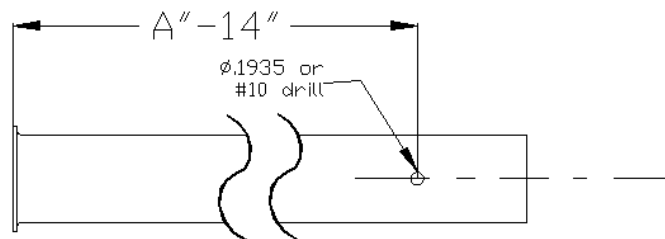

Figure 2
3. On the Drop Tube, drill two holes that are 180° apart using a #10 drill at the (A-14") location at the bottom of the drop tube. The bottom of the drop tube is the end that is not flared. Figure 2 shows the location of the Thru Hole.